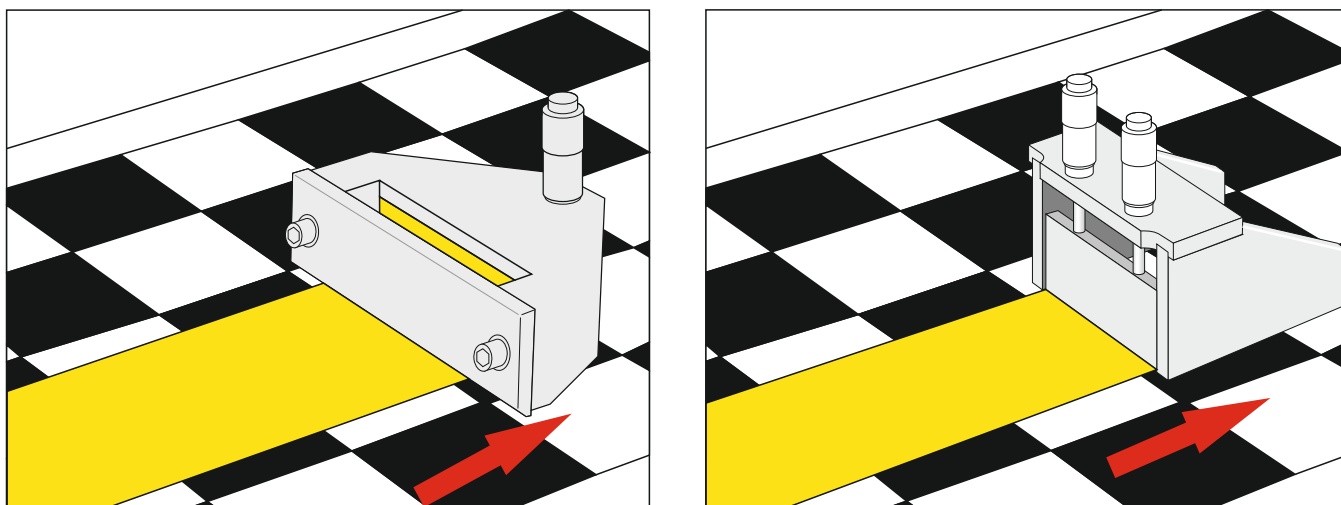

Figure 4
- ▶ The applicator should be positioned facing the direction of travel (Figure 4).